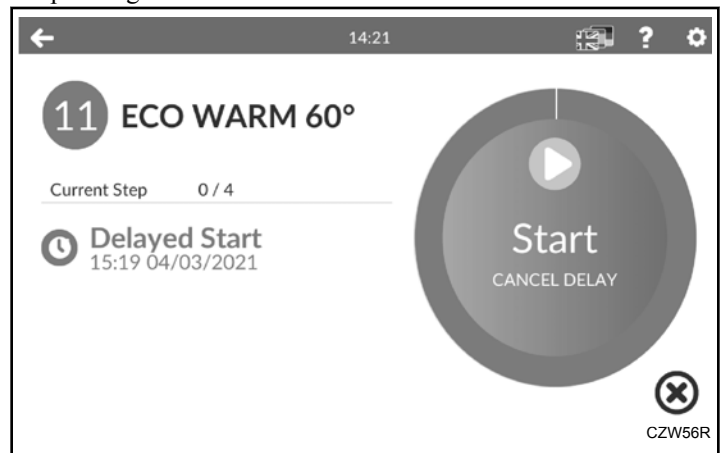

Figure 18
6. Press "Start". The Run Menu screen will appear and shows "Delay Start" as the first step. Refer to *Figure 18*. Delay Start